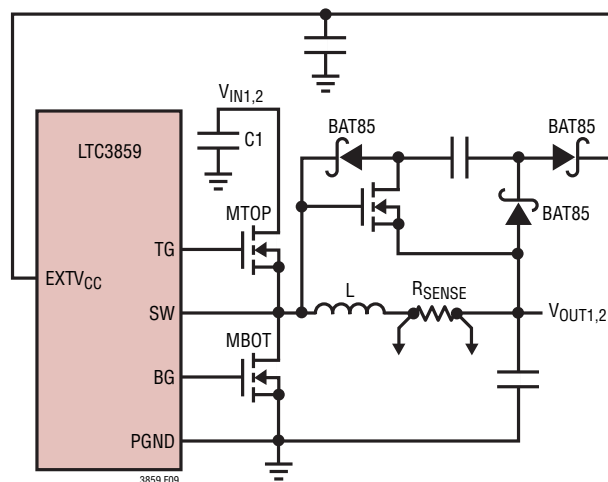

Figure 9. Capacitive Charge Pump for EXT_{CC}
4. EXT_{CC} connected to an output-derived boost network off one of the buck regulators. For 3.3V and other low voltage buck regulators, efficiency gains can still be realized by connecting EXT_{CC} to an output-derived voltage that has been boosted to greater than 4.7V. This can be done with the capacitive charge pump shown in Figure 9. Ensure that EXT_{CC} < V_{IN}.